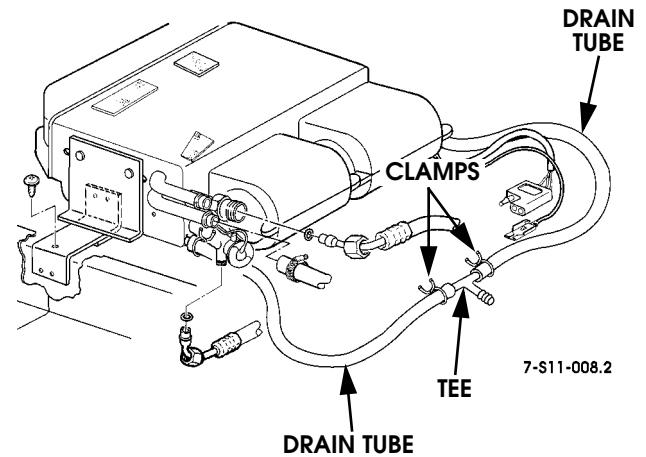

Figure 11-40: Auxiliary A/C Drain Tube Replacement
2. Remove clamps from drain tube section being replaced (Figure 11-40).
1. Install drain tube section and secure with clamps (Figure 11-40).